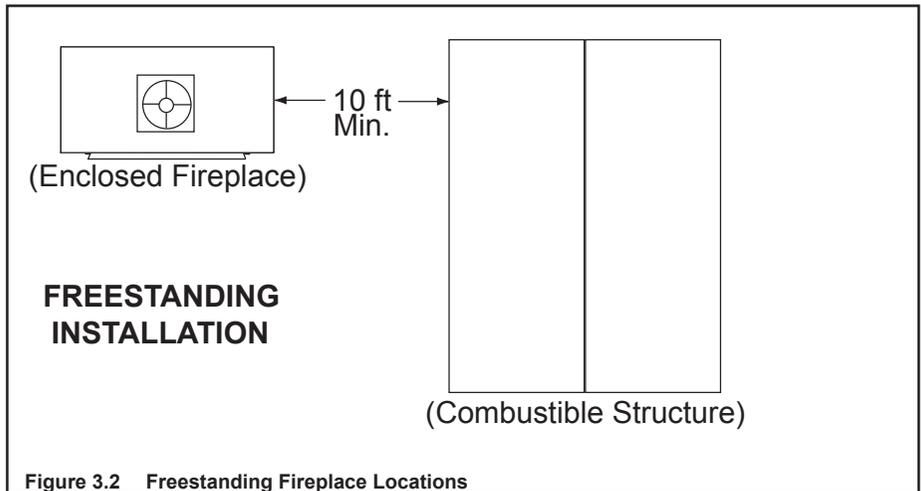

Figure 3.2 Freestanding Fireplace Locations
- **Freestanding Installations (see Figure 3.2)**
- Minimum overall straight height is 10 ft. If the fireplace is freestanding and a minimum of 10 ft from a combustible structure. See Figure 3.2.